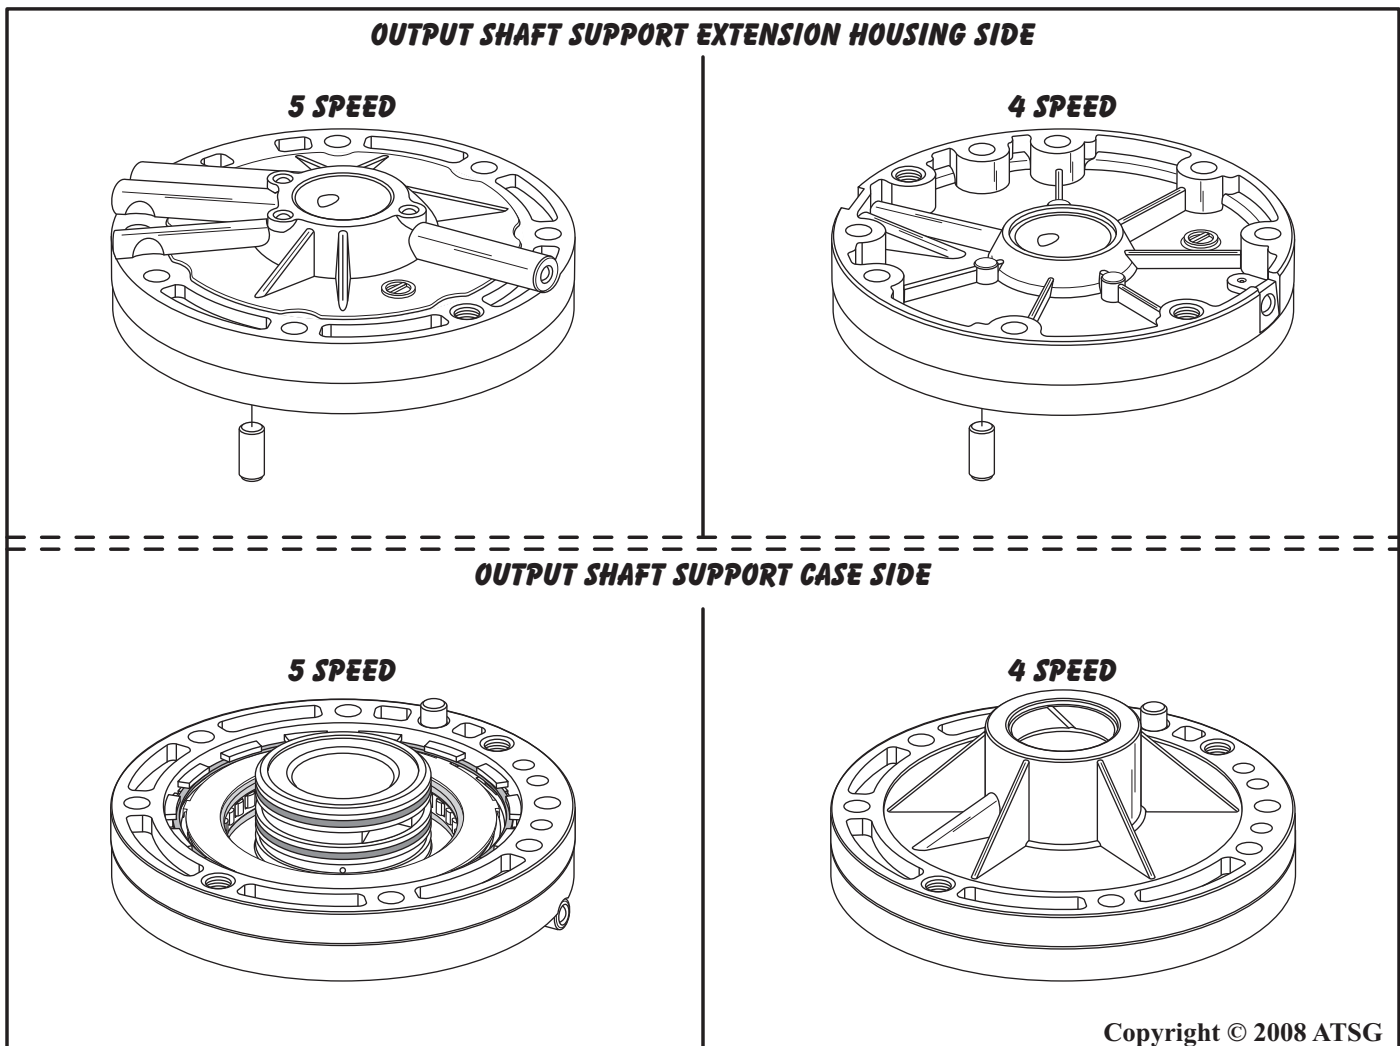

Figure 146
4. The differences between the 4 speed and the 5 speed output shaft supports, are illustrated in Figure 146, for identification purposes.